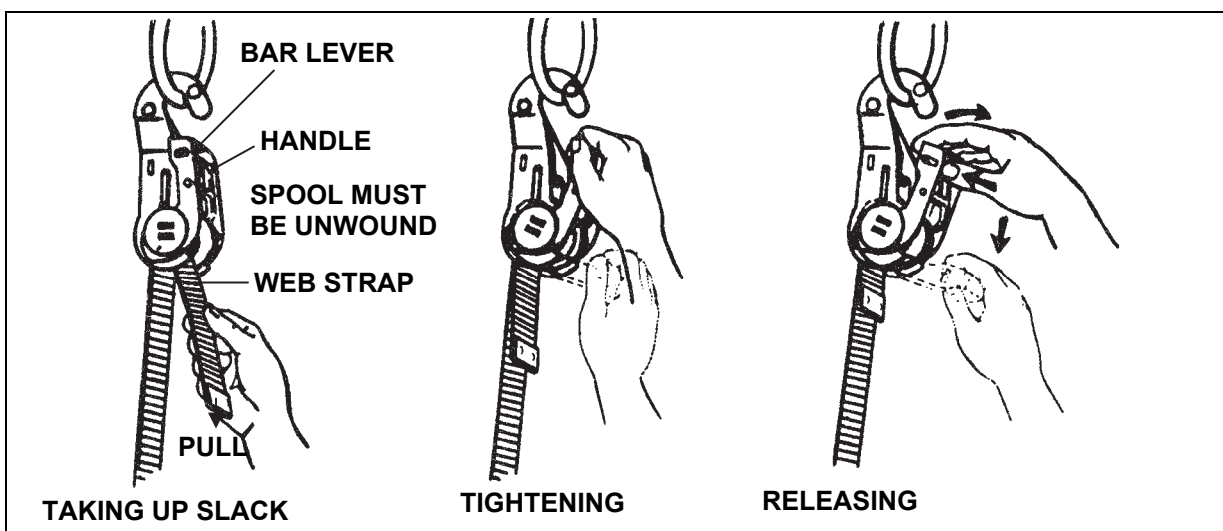

Figure 8-39. CGU-1/B 5,000-Pound Capacity Tiedown Strap
- **CGU-1/B Cargo Tiedown Strap.** The CGU-1/B 5,000-pound capacity cargo tiedown strap is used to restrain cargo in vehicles and trailers (figure 8-39). The tiedown strap is also used between the prime mover and towed or tandem loads, such as M998 truck and M101 trailer to prevent the truck and trailer from pivoting in flight. To operate the tiedown strap, attach the fixed hook of the strap to the cargo or over the cargo to a tiedown ring if the cargo does not have tiedown provisions. Then attach the hook and ratchet end to a tiedown. Make sure that the spool on the ratchet is completely unwound. Apply tension by pulling on the end of the webbing that passes through the spool. While holding the webbing, operate the handle with a rocking motion to tighten spool. Do not force with added leverage. To release, depress the release bar handle in while turning handle to the full open position.